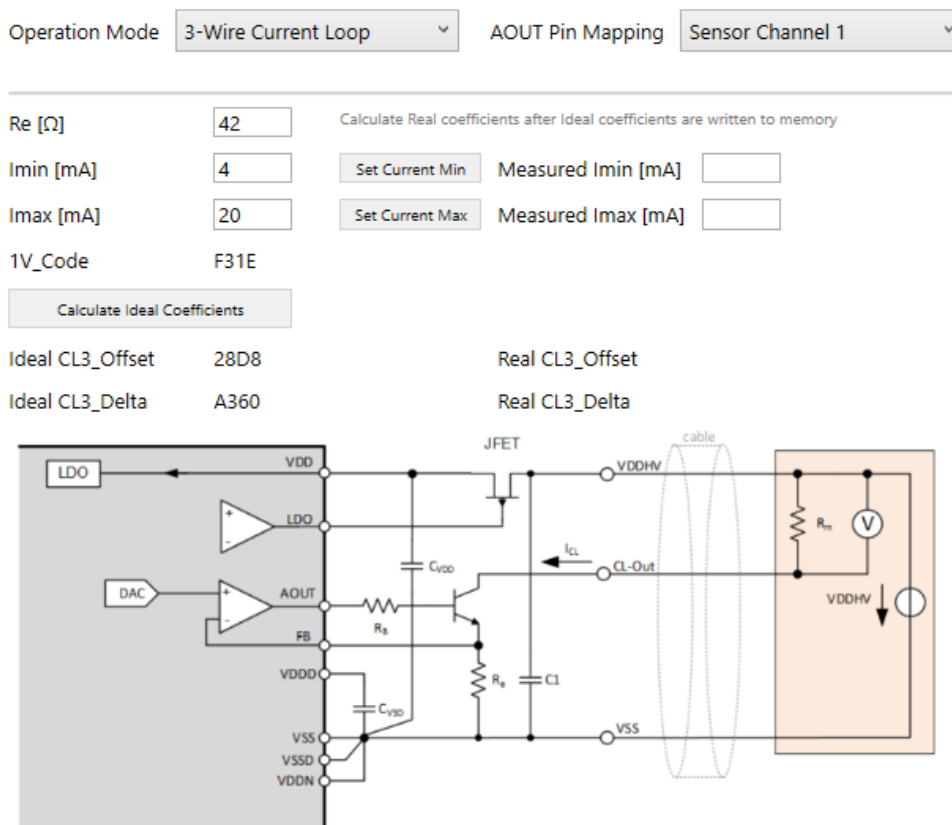

Figure 137. 3-Wire Current Loop Calibration
2. Click the 'Calculate Ideal Coefficients' button (see Figure 137).